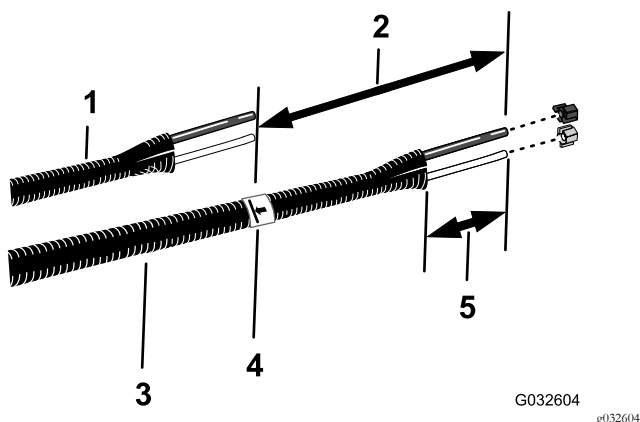

Figure 20
6. Align the old liquid and air tubes (Figure 20) to the new tube assembly (Toro Part No. 114-9553).
8. At the new tube assembly, add 26 cm (10 inches) length from the mark that you made in step 7, mark the tube assembly, and cut the tubes at the second (longer) mark (Figure 20).
10. Remove 77 to 102 mm (3 to 4 inches) of the sheathing from around each end of the tube assembly (Figure 20).